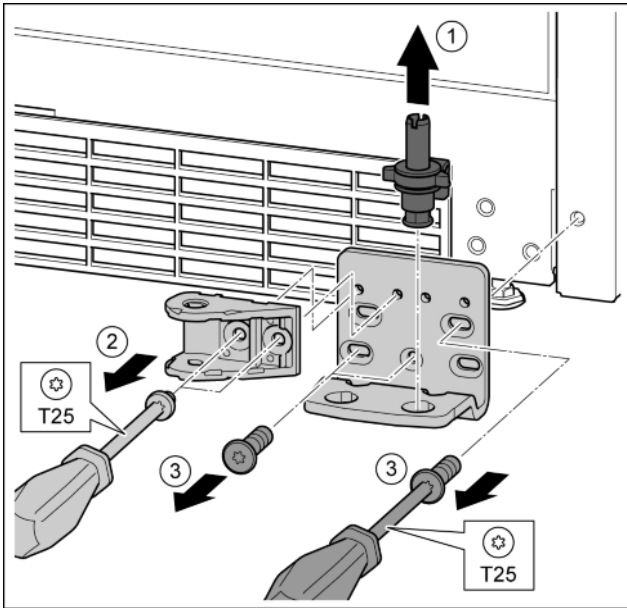

Fig. 28
- ▶ Lift the bearing bolts upwards and remove. *Fig. 28 (1)*
- ▶ Remove the screws with the T25 screwdriver and remove the door mount. *Fig. 28 (2)*
- ▶ Remove the screws with the T25 screwdriver and remove the bearing bracket. *Fig. 28 (3)*